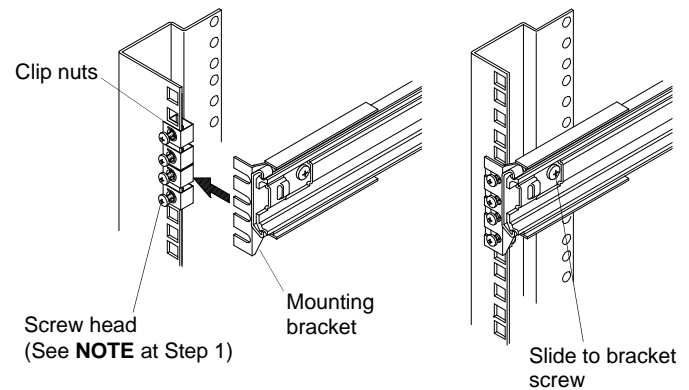

Figure 13
1. Assemble the Slide sections onto the Rack Module rails. Slip the **Mounting Brackets** behind the screw head of the clip nut. See figure 13.